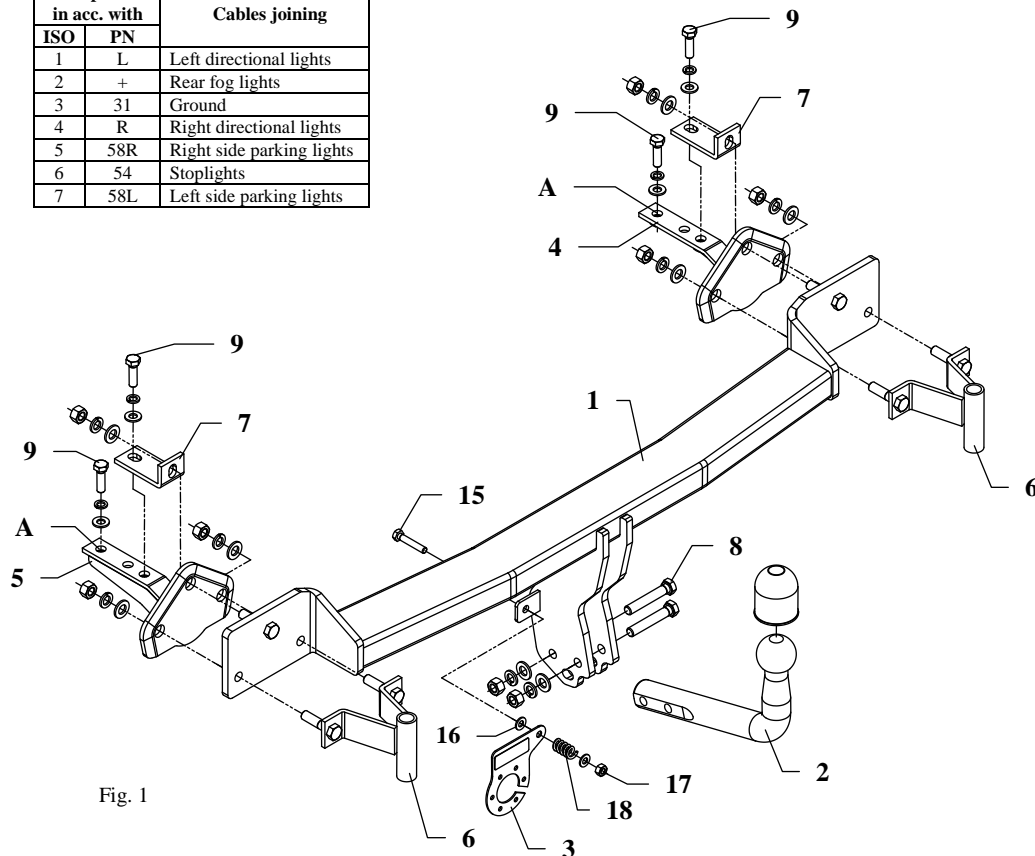

Fig. 1
4. Insert brackets (pos. 4 and 5) to chassis members (as shown on the fig. 1) and fix loosely through holes (pos. A) using bolts M10x35mm (pos. 9).
5. Fix handles (pos. 6) to the aluminium part of the bumper and next fix its plastic part.
6. So prepared towing hitch put to the rear part of car, put side brackets and angle bars (pos. 7) and fix.
7. Fix tow-ball (pos. 2) using bolts M12x70mm (pos. 8) from accessories.
8. Fix the socket plate (pos. 3) as shown on the drawing.